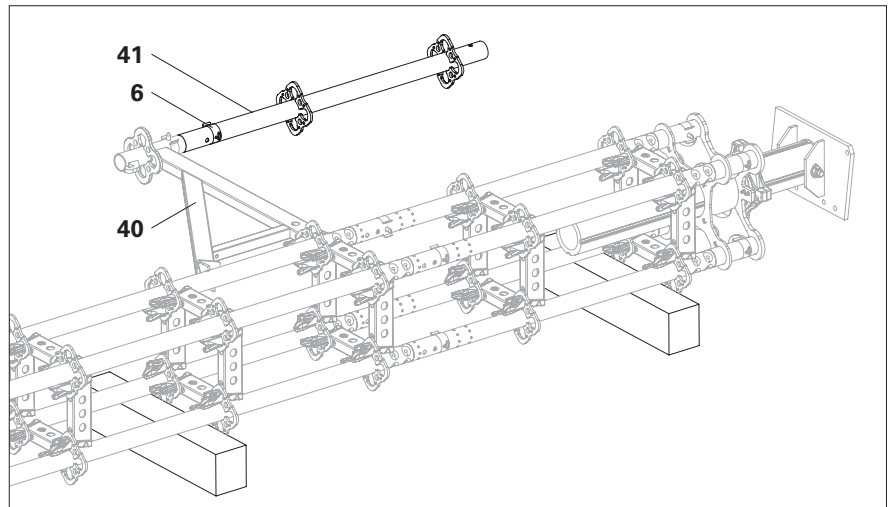

Fig. A6.05
3. Insert the Top Standard UVH-2 100 (**41**) as a guardrail post into the Console Bracket UCM 75 (**40**) and secure it with locking pins $\varnothing 48/57$ (**6**). (Fig. A6.05)
- Are the Top Standard UVH-2 100 (**41**) and the Console Bracket UCM 75 (**40**) tightly connected with the locking pin \varnothing 48/57 (**6**)? (Fig. A6.05)